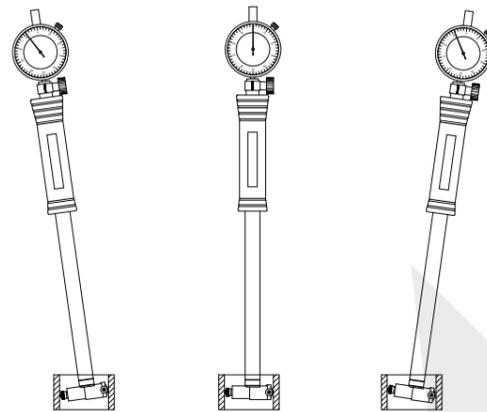

Fig.1
(2) Set calibration size: Select setting ring, outside micrometer, or standard hole with known diameter and accuracy, clean measuring faces with soft cloth.
(3) Set zero (as setting ring gage for a example): Insert the bore gage into setting ring and sway the bore gage wiggly (fig.1), to find the "turning point" of the pointer. Loosen bezel locking screw and rotate bezel to make "zero line" coincide with "turning point" then tighten bezel locking screw. Sway the bore gage wiggly several times to make sure the "zero line" coincide with the "turning point".